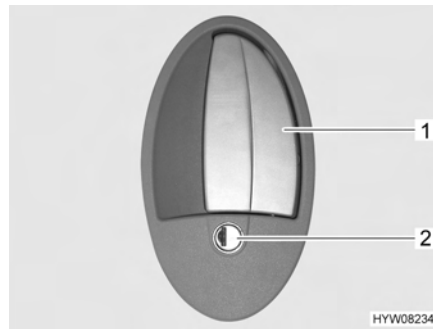

Fig. 11 Door lock, outside
- Insert the key into locking cylinder (Fig. 11,2) and turn until the door lock is unlatched.
- Pull on the handle (Fig. 11,1). The door is open.
- Insert the key into locking cylinder (Fig. 11,2) and turn until the door lock is engaged.